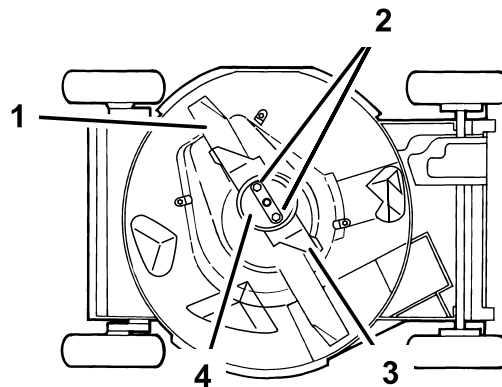

Figure 33
4. Tip the machine with the dipstick down (Figure 33).
Grasp the end of the blade using a rag or a thickly padded glove. Remove the blade nuts, the anti-scalp cup, the accelerator, and the blade (Figure 33).
5. Remove 2 blade nuts, the anti-scalp cup, the accelerator, and the blade (Figure 33).